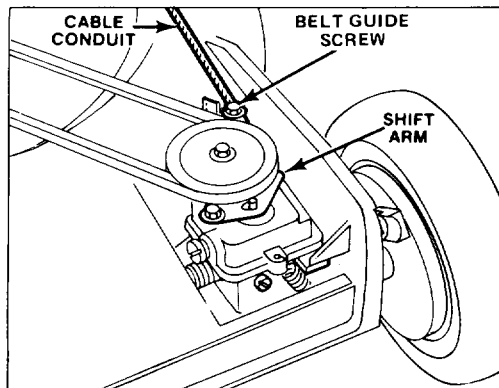

Figure 19
3. ADJUSTMENT (Fig. 19) – Loosen belt guide screw until cable conduit slides. Move handle-mounted wheel drive control to DIS-ENGAGE detent. Move shift arm toward clamp screw and hold in place. Pull cable conduit to remove slack and tighten guide screw.